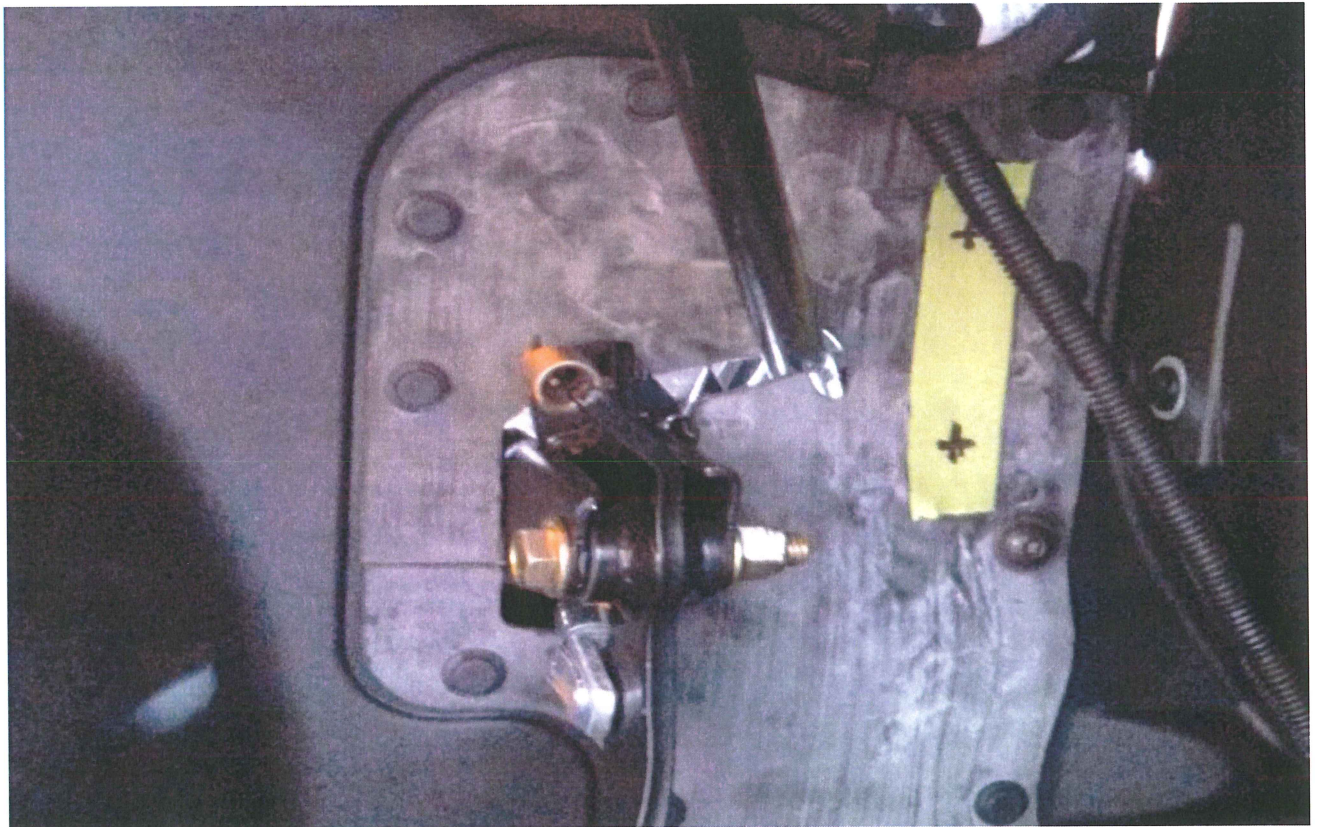

Figure 1
1. Carefully cut out the heater hose hole in the rubber shield on the firewall by making an X cut with a utility knife in the rubber shield as shown in Figure 1.